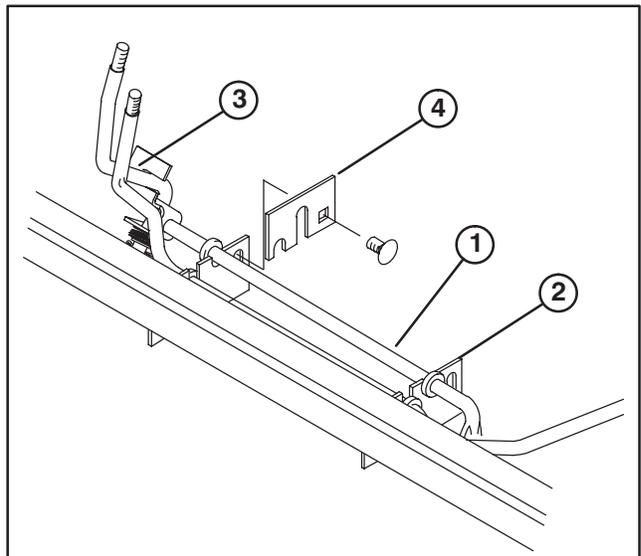

Figure 5
10. Insert rod lever up thru console while placing rod assembly into slots in frame channel brackets (Fig. 5 & 6). Secure rod assembly to frame channel brackets with hold down brackets, carriage bolts and locknuts previously removed. Do not overtighten hold down brackets or rod will not pivot freely.